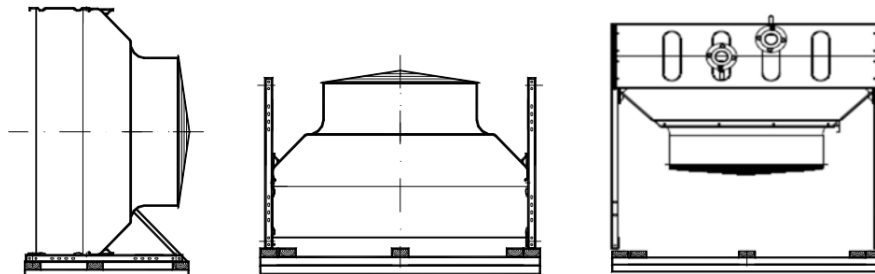

Figure 6: Units packed in different positions
In Figure 6: Units packed in different positions on page 26, on the left there is a unit packed in an upright position. In the middle, there is a unit packed in horizontal position. On the right, there is a unit with forced draught (FD) fans, delivered in the operation position.